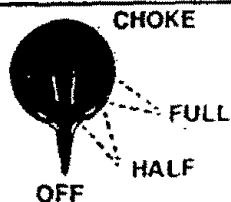

Figure 16
- c. Adjust choke according to "Starting Procedure for Varying Conditions" below. Figure 16.
- 1.) Push choke to full choke position. Figure 16.
- 1.) Leave choke at the off position. Figure 16.
- 3.) Push choke to the off position. Figure 16.